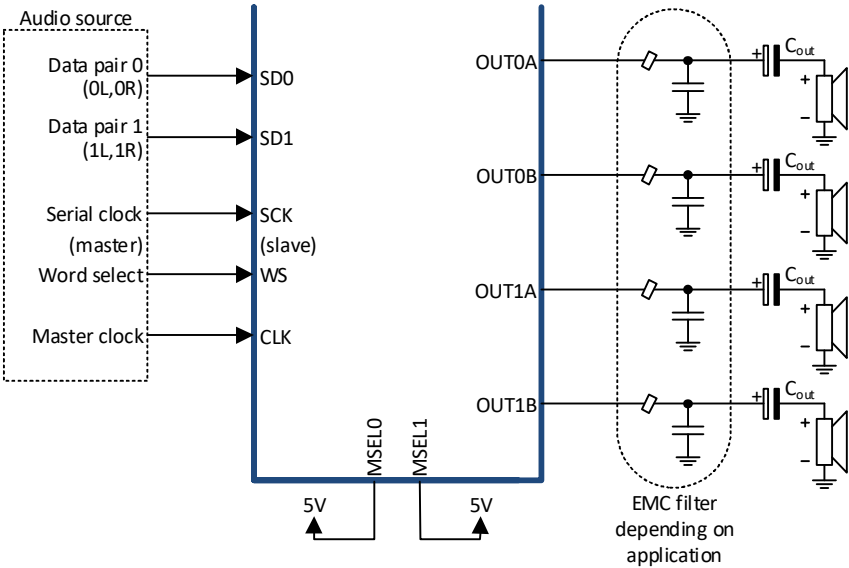

Figure 9-2 Four channel, single ended (SE) configuration
In single ended (SE) configuration, the MA12040P is able to drive one loudspeaker per output power stage, i.e. up to four loudspeakers. The output is biased to half the power supply voltage, $\frac{1}{2} PVDD$. One of the solutions to drive a speaker in this configuration is to use AC-coupling capacitors (C_{out}) in series with the load, as shown in Figure 9-2. The value of the capacitors depends on the load resistance and the desired audio bandwidth.